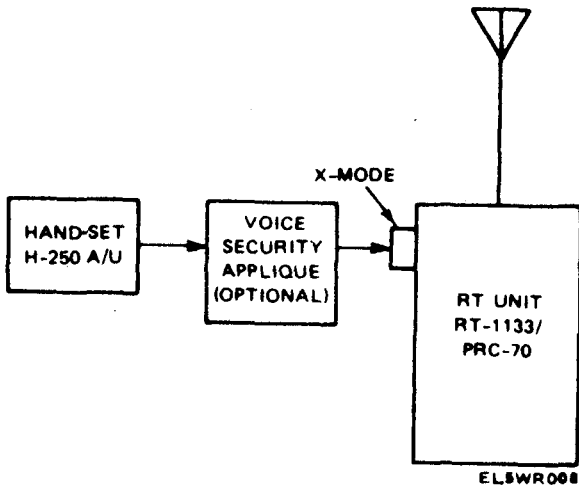

Figure 4-1. Voice Security Equipment Configuration
- a. Equipment Setup.* The radio set can be operated in secure or nonsecure voice modes from fixed locations. Figure 4-1 shows this configuration which includes the following items: